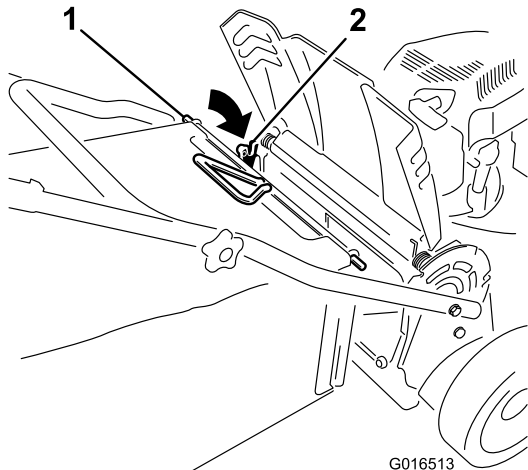

Figure 28
3. Install the bag rod into the notches at the base of the handle and rock the bag back and forth to ensure that the rod is seated at the bottom of both notches; refer to Figure 28.